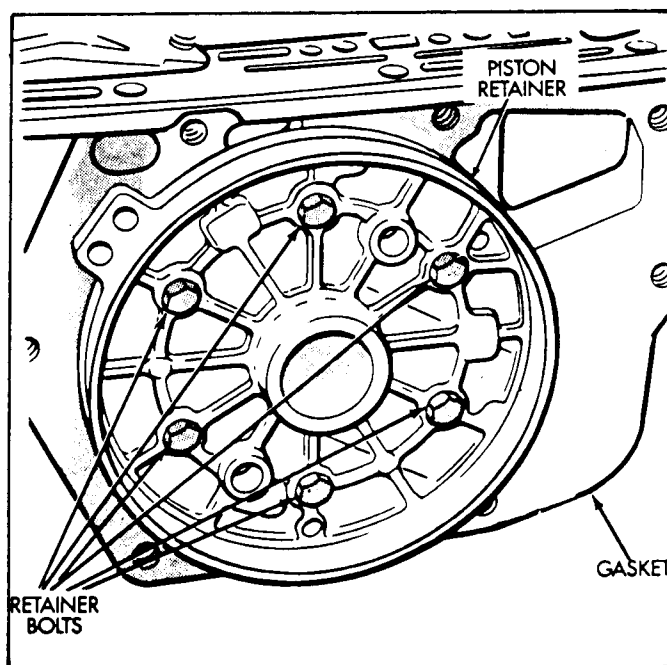

Figure 25
38. Remove the bolts attaching overdrive piston retainer to rear of case, as shown in Figure 25.